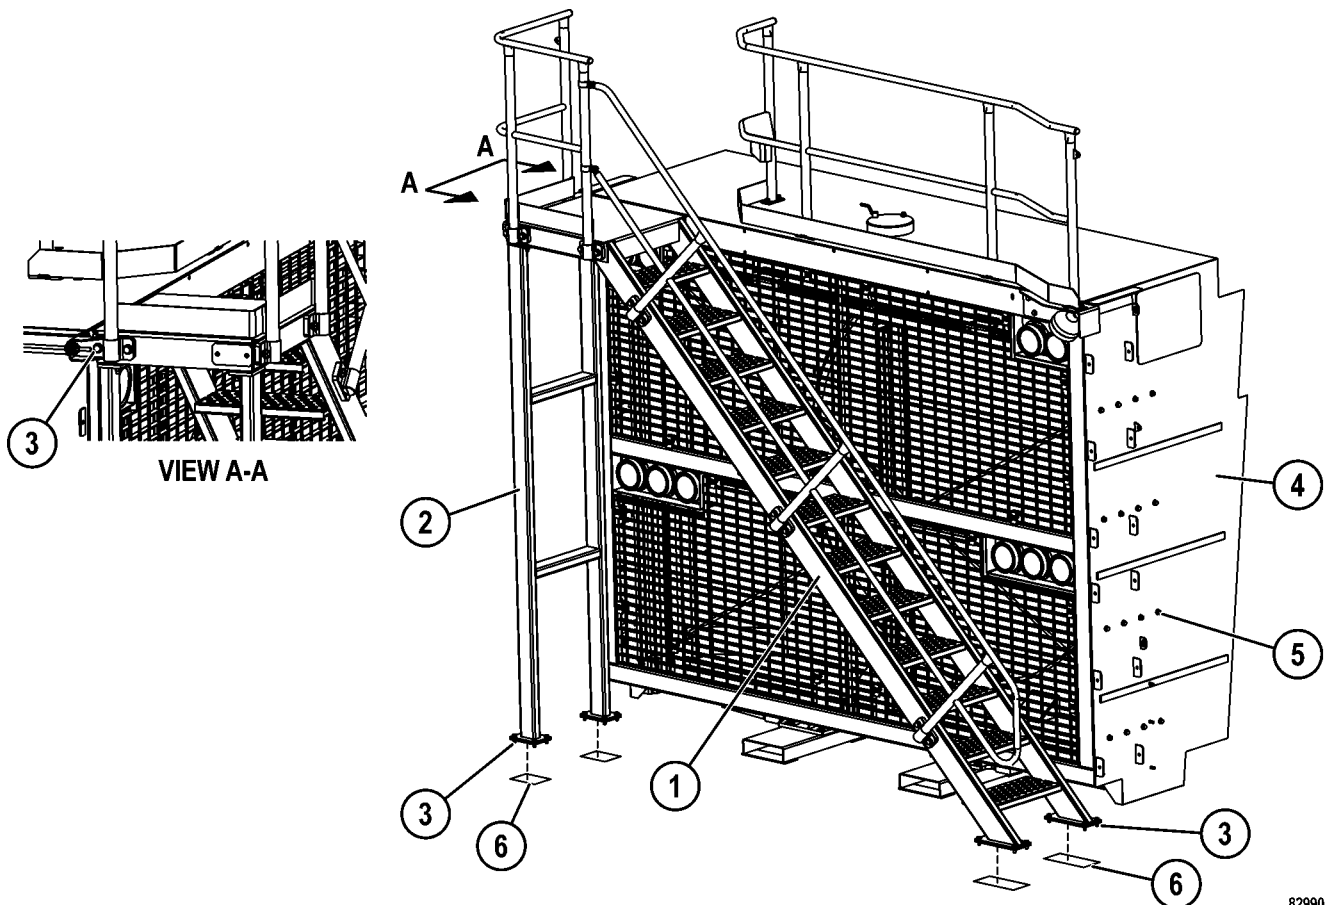

FIGURE 2-1. DIAGONAL LADDER, GRILLE & HOOD REMOVAL
1. Attach an appropriate lifting device to the diagonal ladder. The combined weight of diagonal ladder (1, Figure 2-1), support (2) and the handrails is approximately 300 kg (660 lb).
2. Remove ladder mounting hardware (3).
3. Lift the structure off the truck. Collect shims (6).
5. Attach an appropriate lifting device to hood and grille assembly (4). The weight of the grille and hood assembly is approximately 500 kg (1,100 lb).
6. Remove all hood mounting hardware (5) on both sides of the hood.
1. Use an appropriate lifting device to lift grille and hood assembly (4, Figure 2-1) into position on the truck.
2. Align the mounting hardware holes with the brackets attached to the radiator assembly. Install hood mounting hardware (5). Tighten the capscrews to the standard torque.
4. Use an appropriate lifting device to lift diagonal ladder (1) and support (2) into position over the mounting pads on the front bumper. Align the mounting holes and install shims (6) as needed to level the structure.
5. Install ladder mounting hardware (3). Tighten the capscrews to the standard torque.